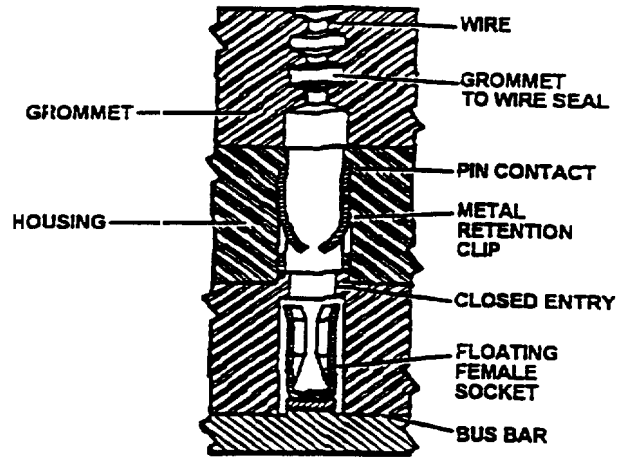

Figure 3. Internal Contact
15. INTERNAL CONTACT. Internal contact is the non-removable contact contained in the TJS components (Figure 3).